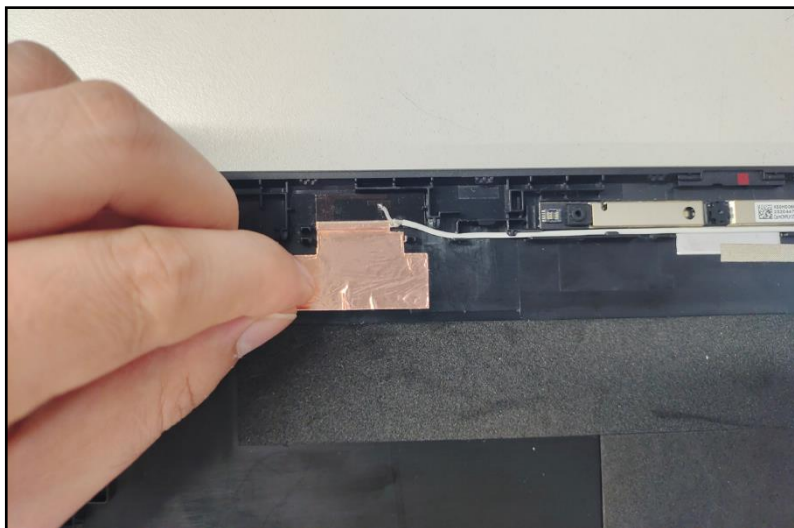

Figure 3-66. Replacing the MAIN Antenna
3. Place the MAIN antenna to the right side of the LCD cover. Make sure the antenna PCB circuit area is properly seated and placed onto its compartment highlighted by a green rectangle as shown in Figure 3-66.
4. Adhere the grounding foil of the MAIN antenna as marked in yellow (Figure 3-66).